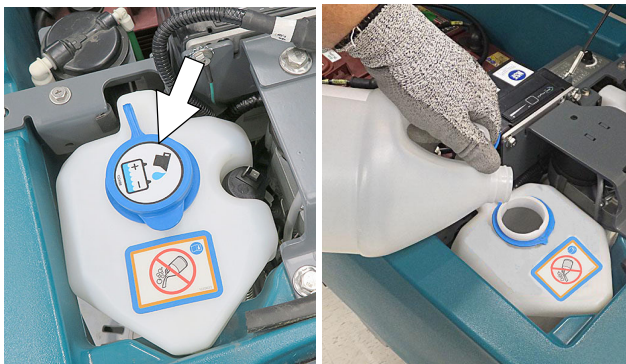

FIG. 24
- Remove the blue cap from the automatic battery watering tank (Figure 24).
- Pour distilled water into tank (Figure 24).